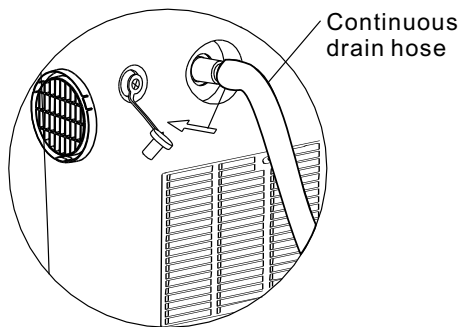

Fig.19
- Remove the rubber plug at the back of the unit and attach a hose to the drain outlet. Place the open end of the hose directly over the drain area in your basement floor (See Fig.19 & 20).